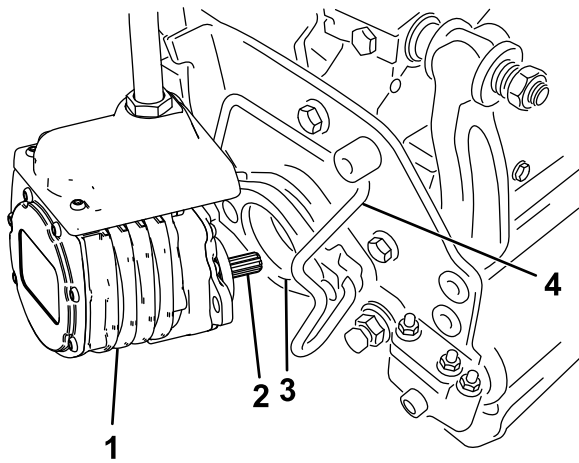

Figure 54
6. Coat the spline shaft of the cutting unit motor with clean grease (Figure 54).
7. Insert the motor into the left side of the cutting unit (as viewed from the operator's position) and pull the motor retaining bar on the cutting unit toward the motor until you hear a click from both sides of the motor (Figure 54).